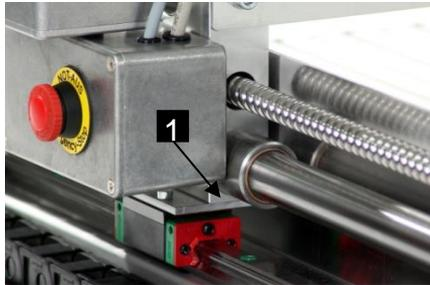

Figure 35.: Ball bearing carriages Y-axis
- 1 fitting of the ball recirculation (Fig. 35/1).